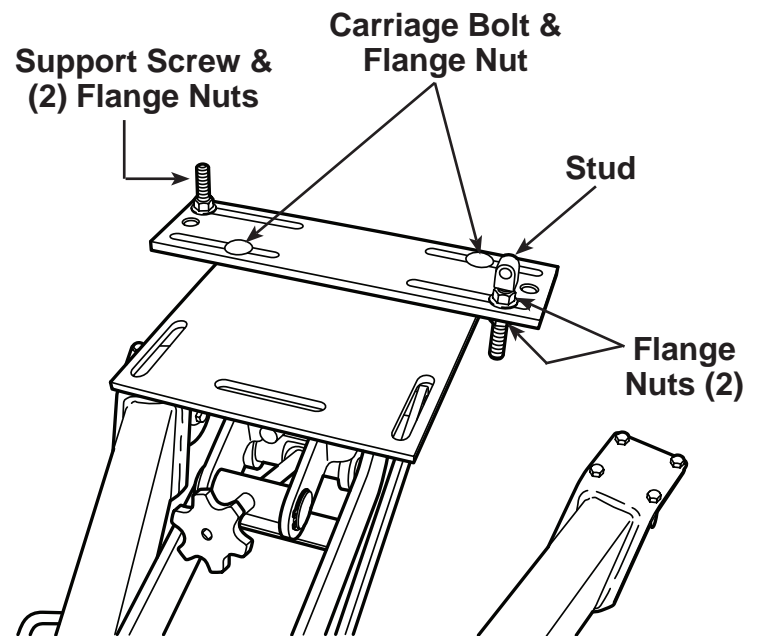

Figure 1
1. Install the auxiliary box adapter on the transmission jack mounting plate using the carriage bolts and flange nuts provided. Tighten the flange nuts. See Figure 1.
2. Plan the placement of the support screw and stud to fit your application. Figure 1 shows the support screw and the stud assembled to the adapter plate in one of several possible arrangements.